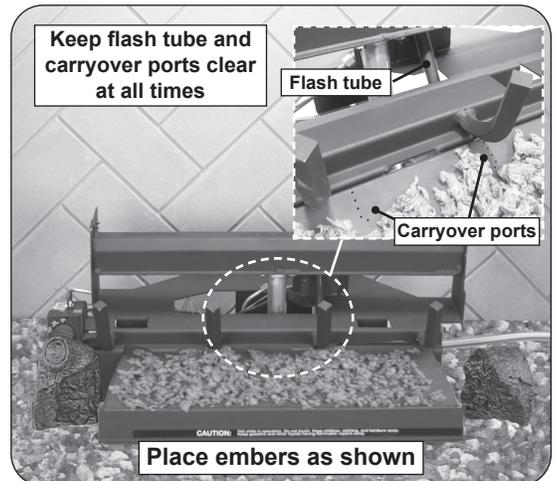

Fig. 18-3 Place glowing embers
1. Place the glowing embers evenly over the entire surface of the ember burner as shown in Fig. 18-3. **Break up any clumps that may have developed during shipment. Store unused embers for later use/replacement.**
Important: Ensure the flash tube and carryover ports are kept clear at all times. See Fig. 18-3.